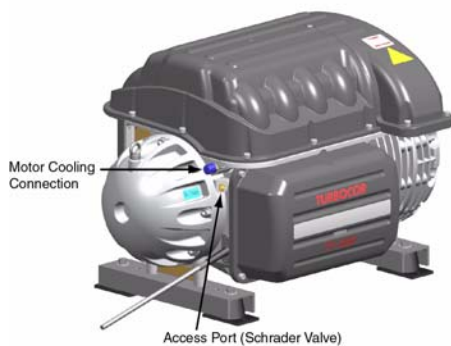

Figure 6 Motor Cooling Connection and Access Port
Compressor is pressurized with nitrogen to 25 psi (173 kPa) Pressure should be relieved through the Schrader valve on the compressor end cap prior to removing the blanking plates; refer to Figure 6.
5. Attach the motor cooling connection at the rear of the compressor. Refer to Figure 6 for location.